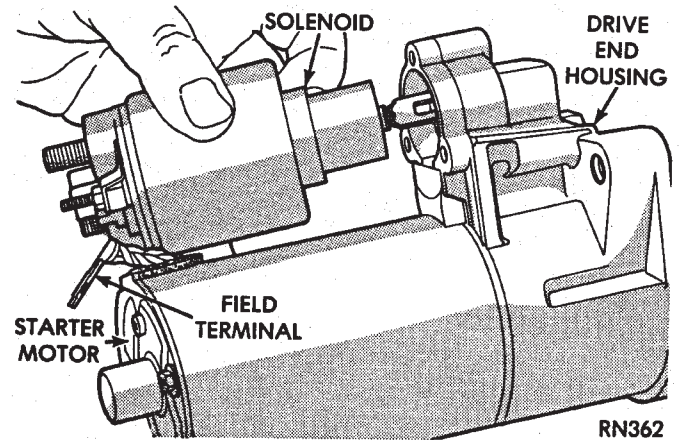

Fig. 18 Solenoid
(1) Remove solenoid assembly (Fig. 18).